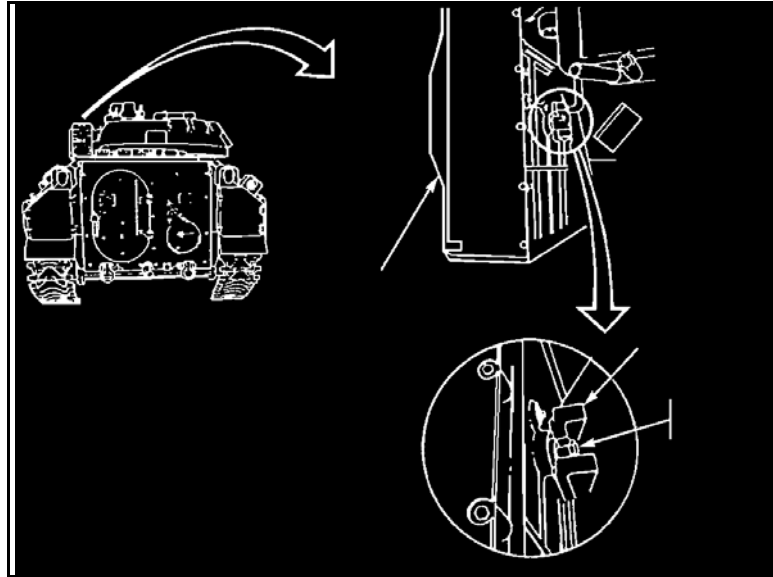

Figure 6. Stow pin and saddle.
e. Depress the TOW launcher by turning the handwheel forward to clear the stow pin from the saddle (Figure 6).